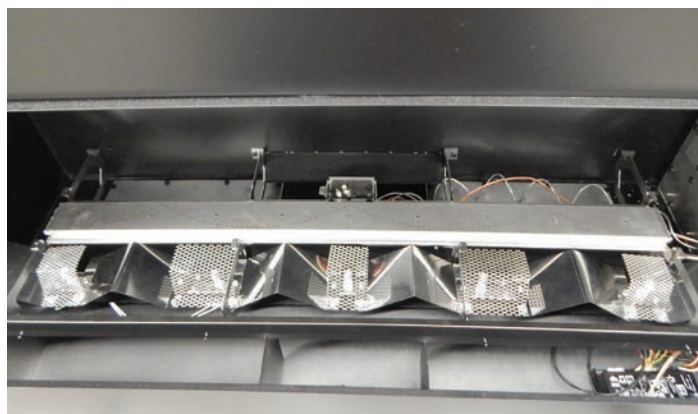

Figure 17
21. **Figure 17** shows completed view of the LK9 Light kit in the DVLL48BP Fireplace.